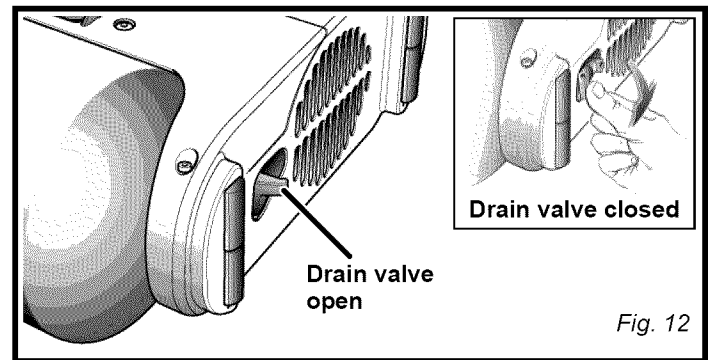

Fig. 12
See figure 12.
- Open the drain valve by rotating it ¼ turn counterclockwise (fig. 12).
- Close the drain valve by rotating it ¼ turn clockwise (fig. 12).